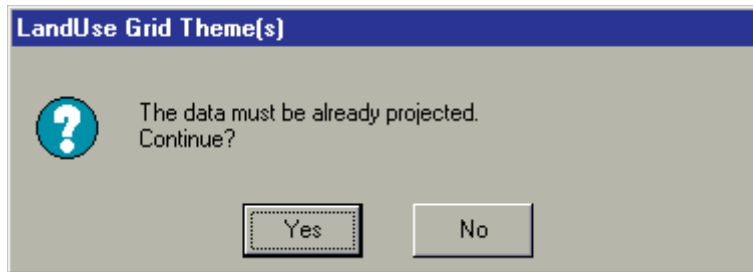

Figure 6.10
- ii. If loading from disk, a prompt dialog pops up (Figure 6.10).